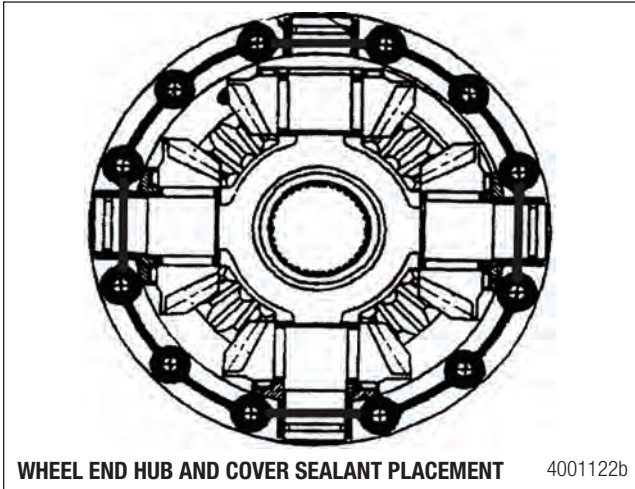

Figure 13.26
6. Apply Loctite® 5699 adhesive sealant to the hub cover along both spider chamfers and around the holes. Figure 13.26.